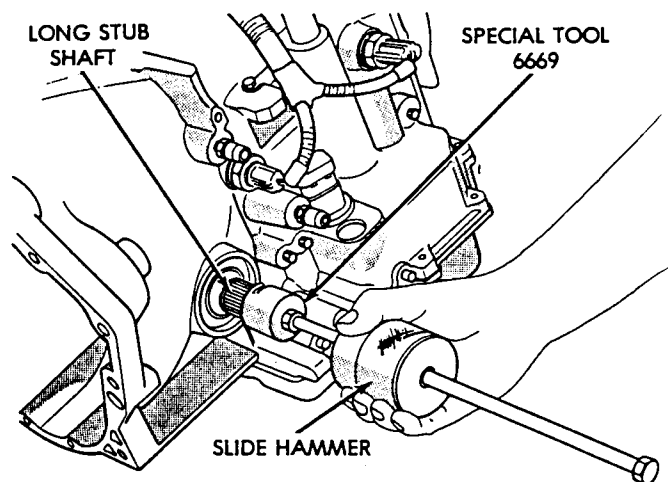

Fig. 17 Long Stub Shaft Removal
(1) Remove transaxle from vehicle. Refer to "Transaxle Removal and Installation" procedure in this section.
(2) Remove valve body from transaxle.
(3) Remove solenoid connector from transaxle case.
(4) Remove long stub shaft from transaxle (Fig. 17).